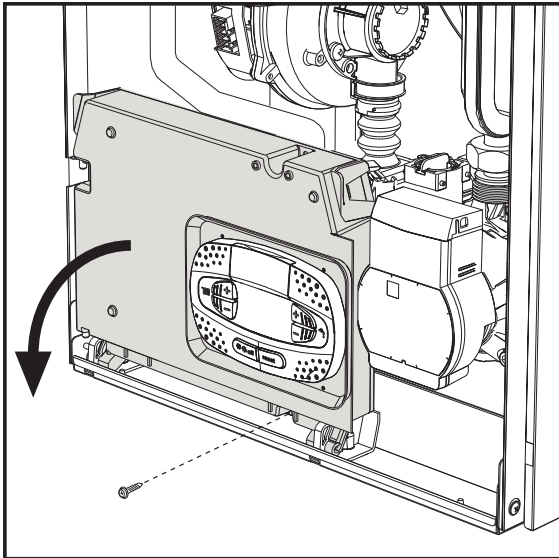
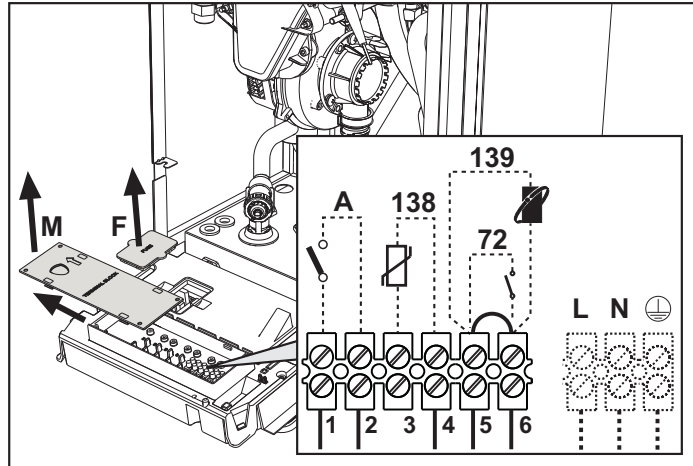

fig. 19
fig. 20
Remove the front panel (*** 'Opening the front panel' on page 185 ***) to access the terminal block (M) and fuse (F) by proceeding as follows (fig. 19 and fig. 20). **The terminals indicated in fig. 20 must be with voltage-free contacts (not 230V).** The arrangement of the terminals for the various connections is also given in the wiring diagram in fig. 61.
ON/OFF (A fig. 20) configuration